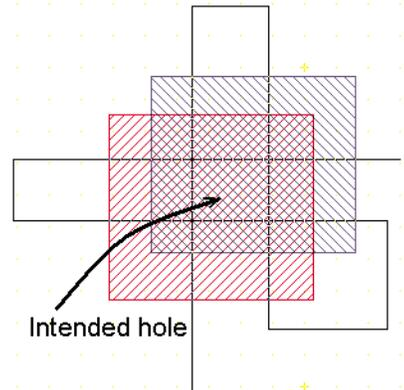

Figure 1. Cutting line.
- 1.3. Draw a self-intersecting cutting line in such a way that the required shape of hole is drawn, see Figure 1. It is important that no "loops" of cutting line lie completely inside the cutting regions: such loops will be ignored.